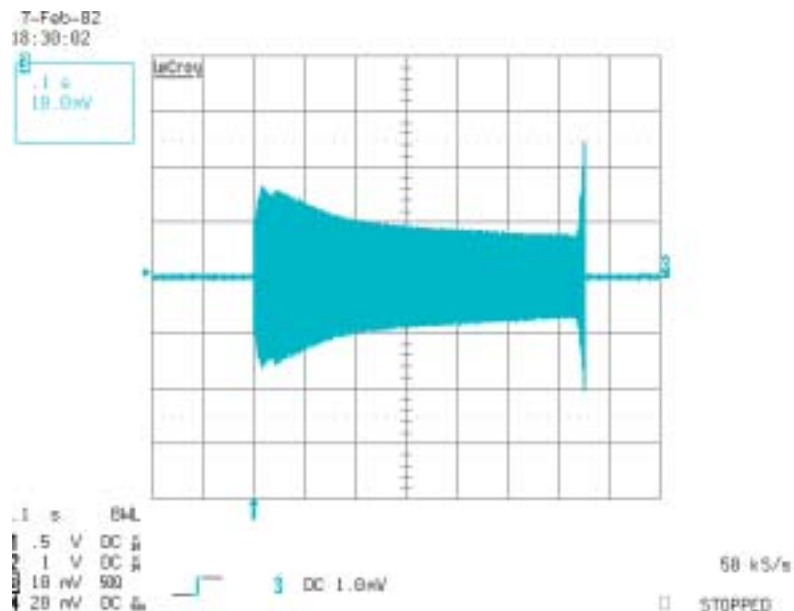
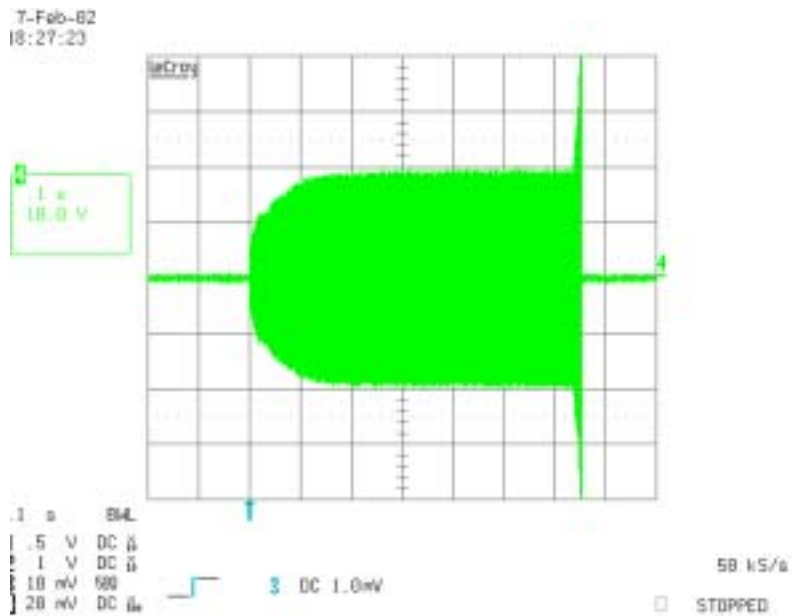

Figure 1: Lamp filament current during Preheat and Ignition Ramp (500mA/div) (crossed lamps)
Figure 2: Lamp filament voltage during preheat and Ignition Ramp (crossed lamps)
The ballast control section oscillator of the IR2166 is similar to oscillators found in many popular PWM voltage regulator ICs and consists of a timing capacitor and resistor connected to ground. Resistors RT and RPH program a current which determines the ramp up time of capacitor CT. The downward ramping time of CT is the dead time between the switching off of the LO (HO) and the switching on of the HO (LO) pins on the IR2166. The Preheat mode frequency of oscillation is determined from the parallel between RT and RPH. It is selected such that the voltage appearing across the lamp is below the minimum lamp ignition voltage while supplying enough current to preheat the lamp filaments to the correct emission temperature within the Preheat mode period. The preheating of the lamp filaments is performed with a constant voltage during the Preheat mode. The waveform in Figure 1 shows the lamp filament current while Figure 2 shows lamp filament voltage during the normal Startup, Preheat and Ignition Ramp modes of the ballast.